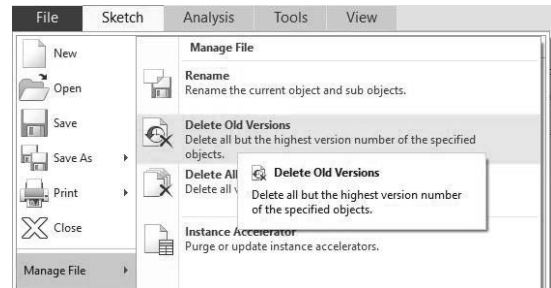

Figure3-66 Delete Old Versions
Step 33: **File>Manage File>Delete Old Versions**. See Figure 3-66.